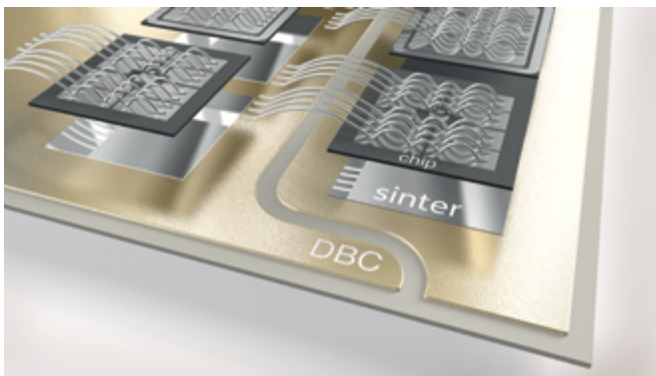

Figure 4: Sinter Technology for chip die attach
a low fundamental frequency, especially for Doubly Fed Induction Generators (DFIG) or in generators without gearboxes, such as Direct Drive (DD) wind turbines. This lower frequency can stress power modules by subjecting them to very high load cycles. For the highest reliability in wind, the chips in 1700V SEMITRANS 20 power modules are attached to the substrate via sintering, shown in Figure 4.